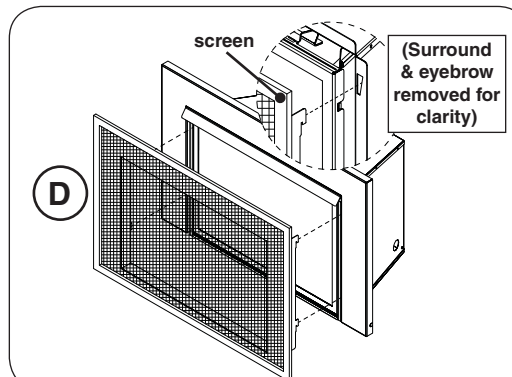

Fig. 38-3 Install fine mesh barrier screen
4. Similar to the surround, the fine mesh barrier screen has side hooks. Carefully insert the hooks into the same slots that the surround rests in. Ensure the screen firmly rests down in place. See Fig. 38-3, "D".